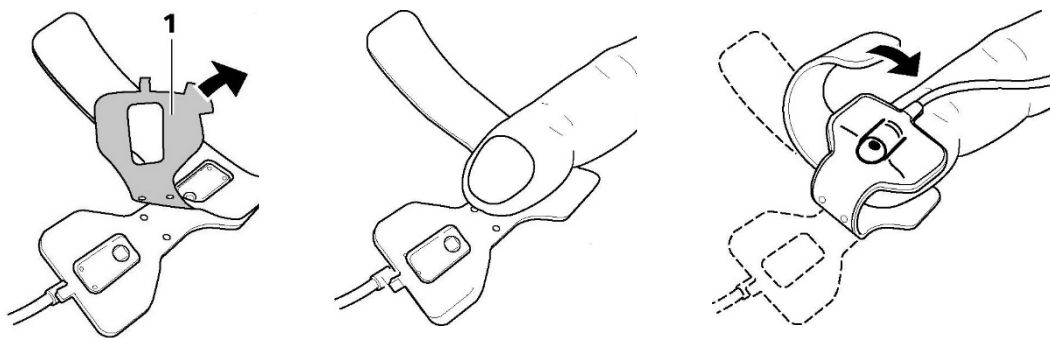

Figure 38 Attaching the oximeter probe to the finger
- 3 Remove the paper backing from the oximeter probe (see 1 in Figure 38). Attach the probe to the index finger of the patient's non-dominant hand, as shown below.